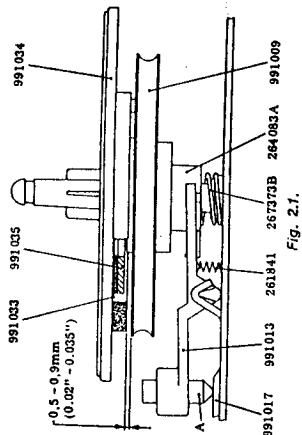
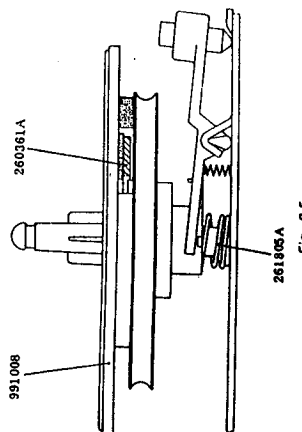

Fig. 2.1.
Fig. 2.5.
between the polyurethane friction pads under the turntable and friction disc 991009 lays between 0.5-0.9 mm (0.02"-0.035"). If necessary, adjust screw A as shown in fig. 2.1.
The torque is read in table fig. 2.3, pos. 3. If the torque deviates from the specifications in the table, check and, if necessary, alter the pressure of spring 261805A. See fig. 2.5.
The difference between Fast Winding Torque and Fast Reverse Winding Torque should be less than 130g (measured at 30 mm radius), or 50g (measured at 80 mm radius). If necessary, alter the pressure of spring 261805A (fig. 2.5), or spring 267373B (fig. 2.1).